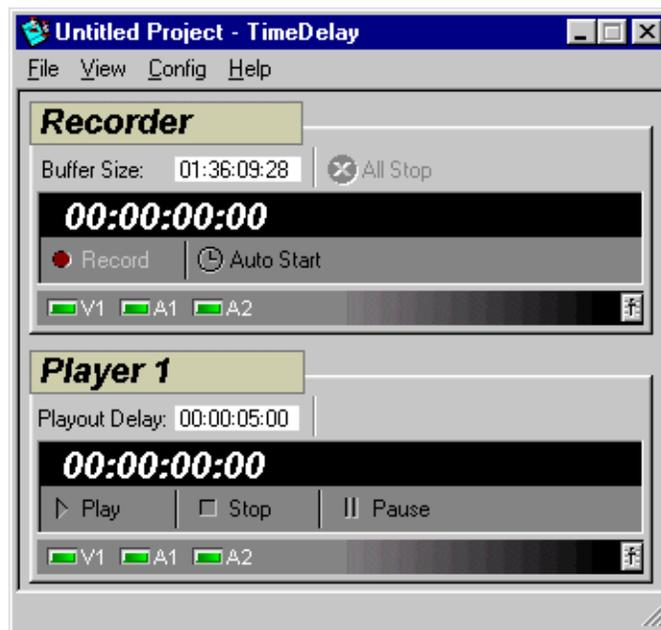

Figure 166. TimeDelay window
- Double click on the TimeDelay shortcut icon on the desktop. When the TimeDelay window appears, you can use the default settings that include one record and one playback panel (see Figure 166).